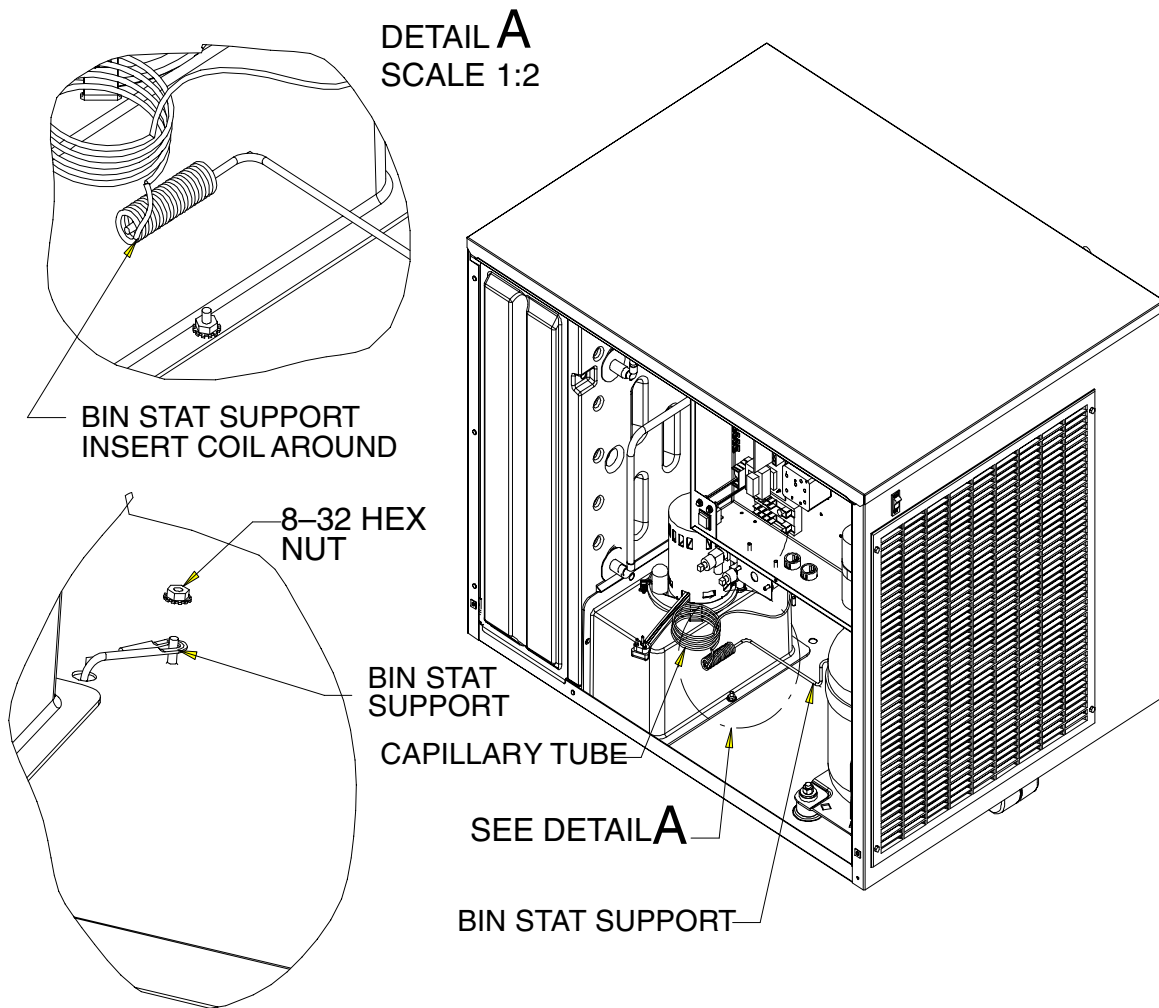

FIGURE 20
6. Insert the “1/4” diameter wire Bin Stat support into the coiled end of capillary tube. Carefully wrap 5 turns of free capillary tube tightly around the Bin Stat support. Insert the assembly through the hole in the chassis base. Route capillary tube to follow the Bin Stat support as closely as possible (see Figure 20).
7. Slip eye of Bin Stat support over the 8–32 weld stud in the chassis base. If a nut exists on this weld stud remove before assembling the Bin Stat support. Secure the Bin Stat support with the 8–32 Keps nut provided in the kit (see Figure 20).